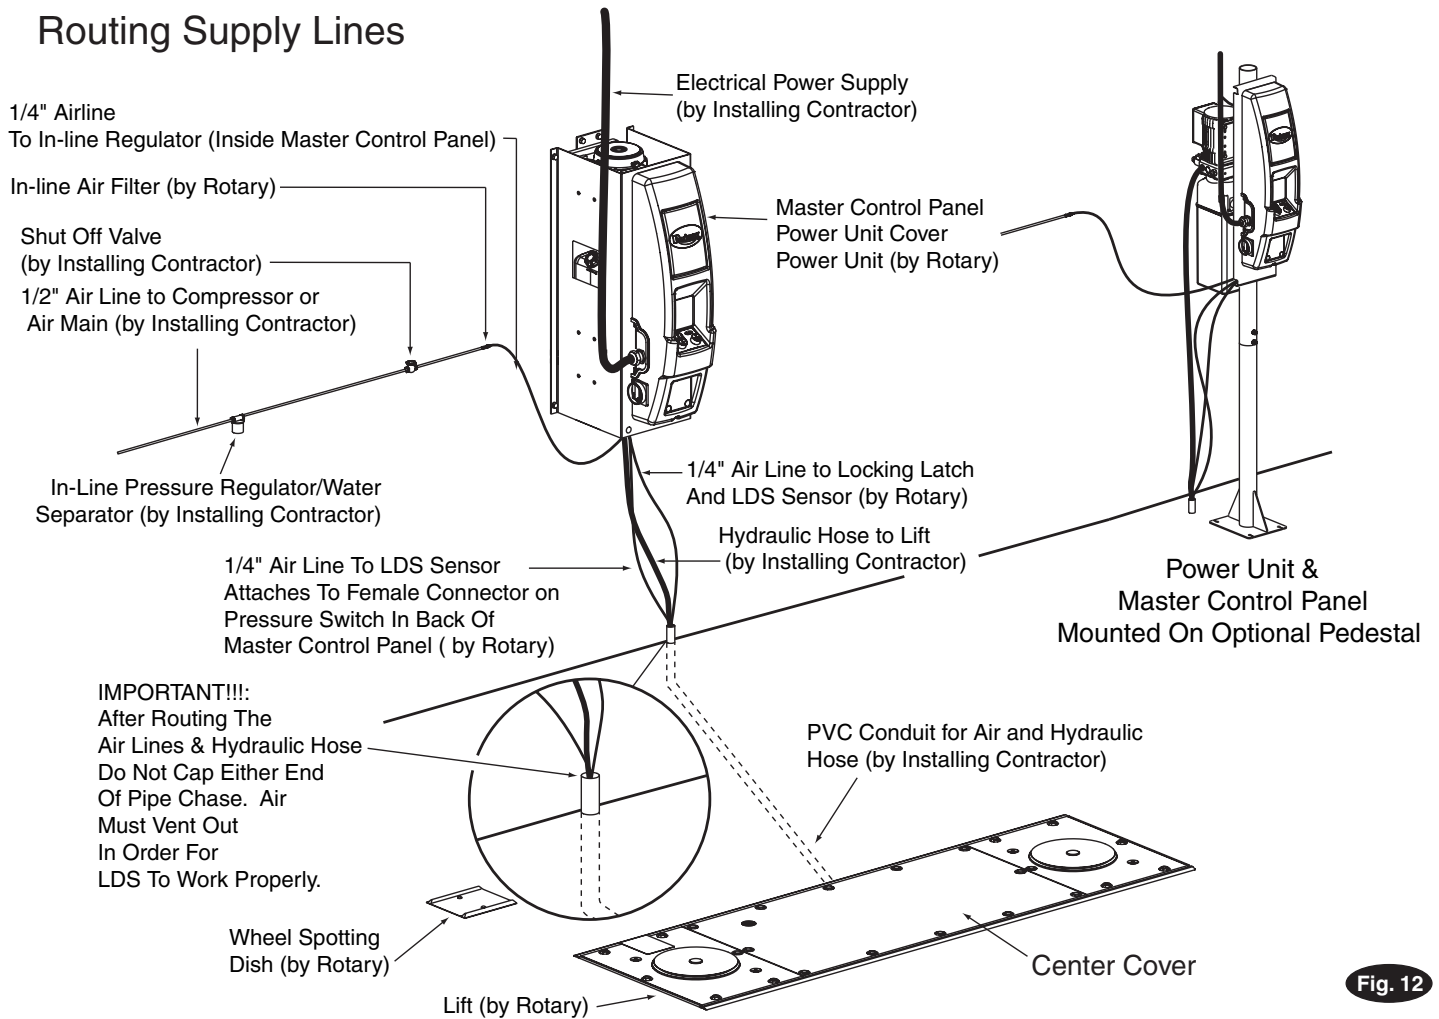

Fig. 12
1. Push the hose through the 2" PVC pipe chase from power unit to lift unit, Fig 12 & Fig. 14.
2. Install in-line air filter, Fig. 12.